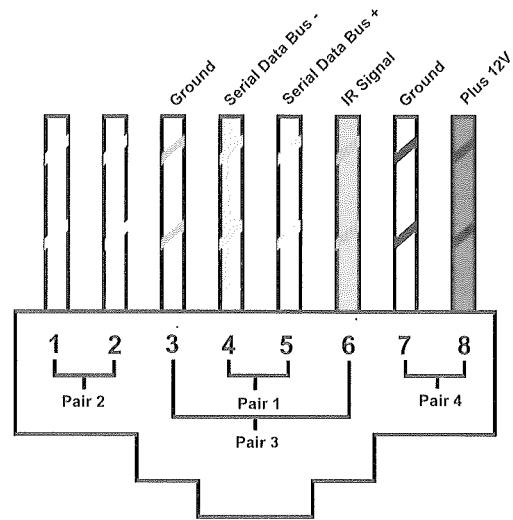

Fig. 1: CAT-5 568A wiring scheme
I. Complete Crimping Instructions for Cat-5 (Fig. 1)
2. Untwist the wires and fan them out individually. Arrange the wires into the correct color scheme. Note that each of the wires is either a solid color, or a white wire with a colored stripe. The colors are green, orange, blue, and brown. The colors need to be in the order shown in Fig. 1.